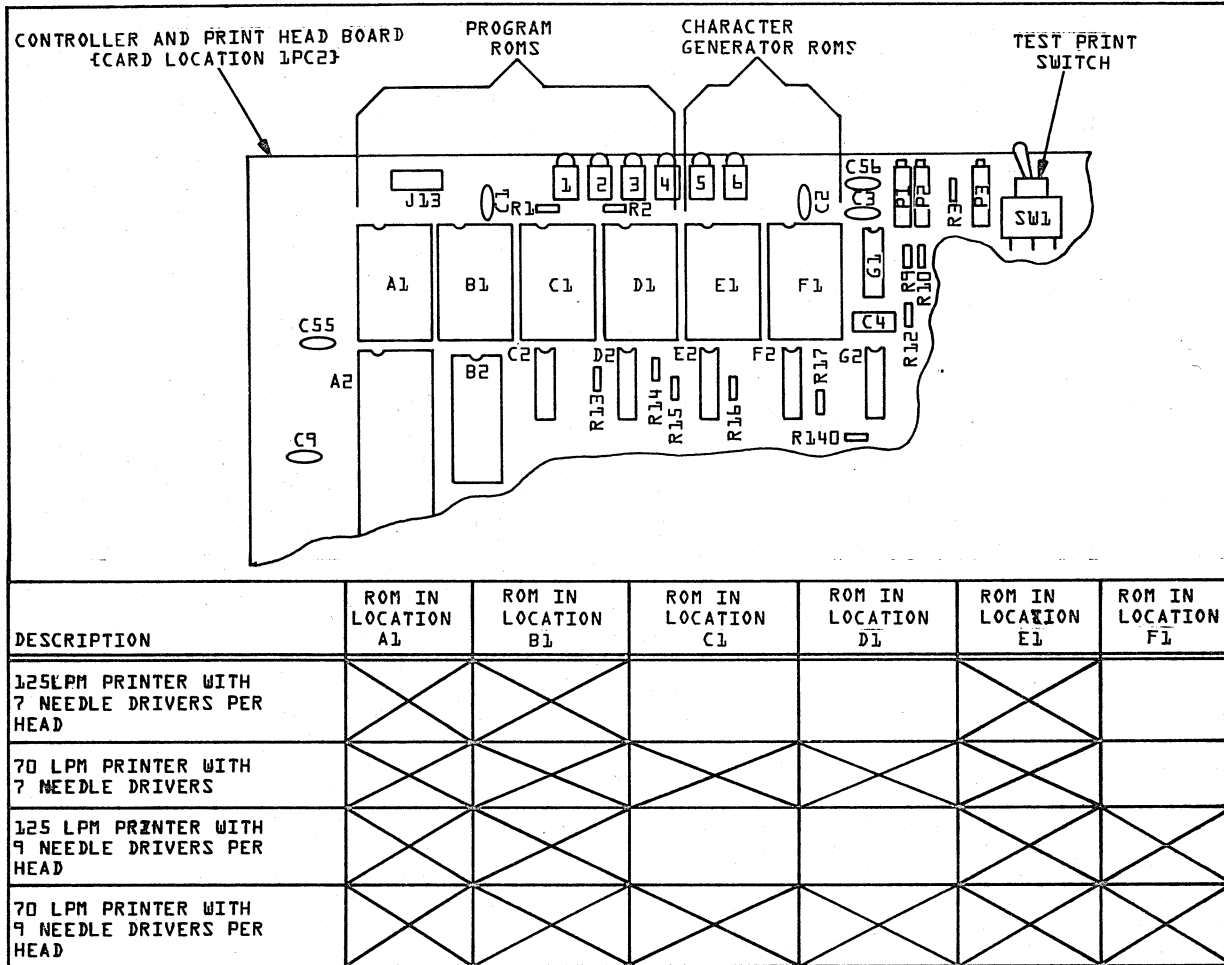

FIGURE 4-9. PROGRAM AND CHARACTER ROM REQUIREMENTS AND TEST PRINT SWITCH LOCATION
8. Inspect the Controller And Print Head Board (card location 1PC2) to insure that the program and character generator ROM's are installed. Follow the precautionary measures indicated in step 7 above when installing these ROM's. See Figure 4-9 for a quick check to see whether your printer has the correct number of program and character generator ROM's for your basic printer configuration.